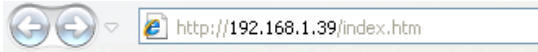

Figure 17: Web Browser Address Bar
2. Enter the IP address of the device (in the address bar of your browser (see Figure 17).